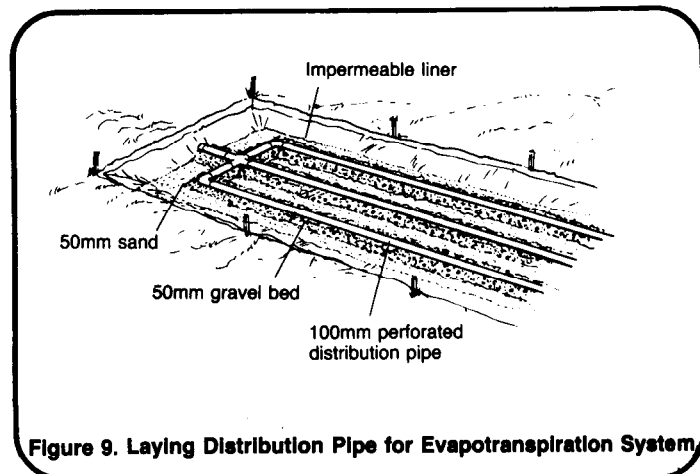

Figure 9. Laying Distribution Pipe for Evapotranspiration System
4. Laying Distribution Pipe. Spread gravel beds for the distribution pipes. The beds are 150mm high and about 300mm wide. Position 100mm diameter perforated distribution pipes on the gravel beds with the perforations facing downward. See Figure 9. Cover the distribution pipes with a 50mm layer of gravel and spread hay or straw over the gravel.